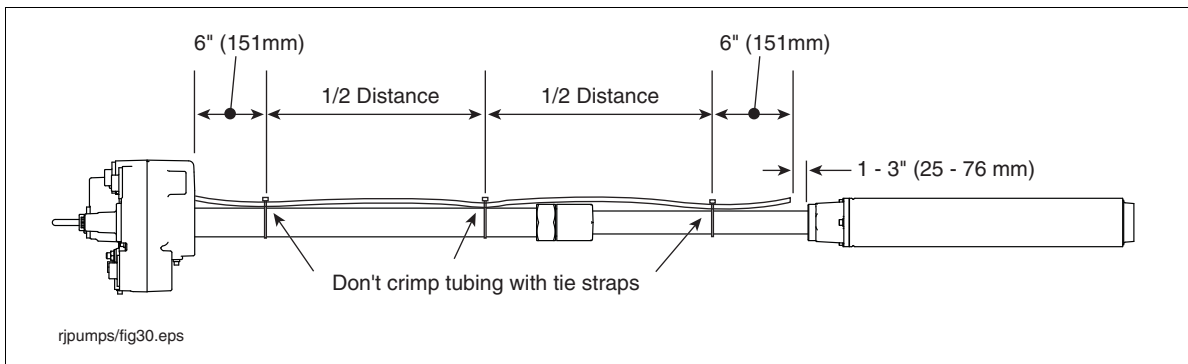

Figure 13. Attaching return line tubing to pump
9. Secure the siphon return line tubing to the column pipe with tie straps. Locate the tie straps approximately 6 inches (152 mm) from the manifold, 6 inches from the discharge head and in the middle of the tubing (see Figure 13).